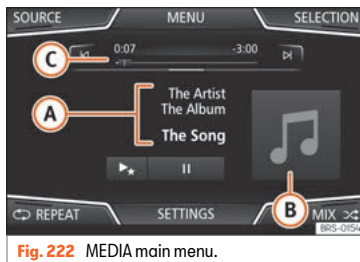

Fig. 222 MEDIA main menu.
- Press the infotainment button / **MENU** and then select the **Media** context to open the *MEDIA* main menu » **Fig. 222**.
The media source being played is indicated on the dropdown list when pressing the **[SOURCE]** function button » **Fig. 222**.